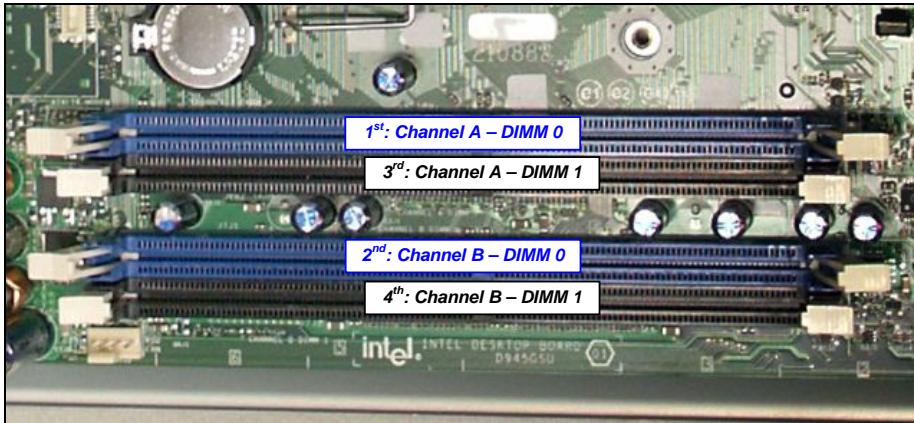

Figure 12.16-11
**Note:** When a specific DIMM has been identified as faulty by a software test make sure that you can match the identification to the relevant DIMM connector on the motherboard. See Figure 12.16-11 for information on DIMM connector identification.
**Note:** The DIMM connectors must be populated in the correct sequence. See figure 12.16-11 for connector identification and population sequence.